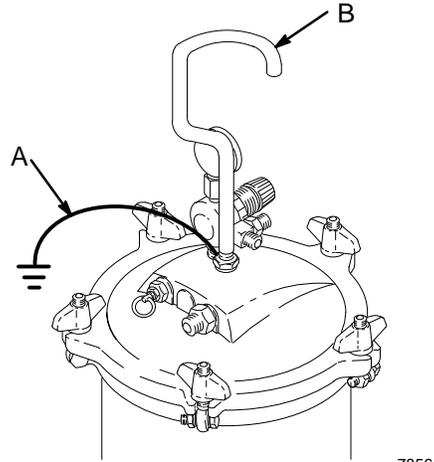

Fig. 1
1. *Pump:* connect the ground wire (A) firmly to a metal part of the tank such as the base of the carry handle (B). Connect the other end of the wire to a true earth ground. See Fig. 1. Order Part No. 237569 Ground Wire and Clamp.
Screw the riser tube (E) into the pipe fitting on the bottom side of the tank cover. See Fig 1.
Screw the handle (A) and the nut (C) onto the cover, and tighten them securely. See Fig 1.
Connect an air supply hose to the 1/4 npt air inlet nipple (9d). Connect the gun's air atomizing hose tee fitting (9e). Connect the gun's fluid hose tee fitting (9e), at the point marked PAINT. See Fig 1.
Connect the air supply hose to the nipple (9d). Connect gun's air atomizing hose to the nipple (10). Connect the gun's fluid hose to the adapter (D), at the point marked PAINT. See Fig 1.
Connect the air atomizing and fluid hoses to the gun. See Fig 1.